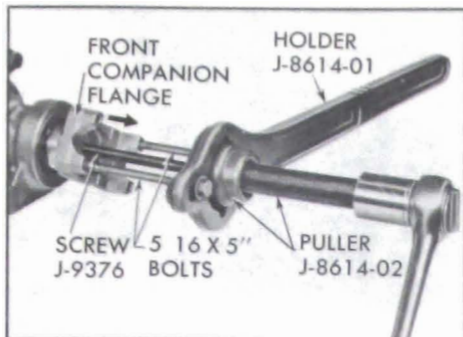

Figure 4-18—Removing Front Companion Flange
3. Remove retainer holding speedometer sleeve in rear bearing retainer. Remove driven gear and sleeve. O-ring seal can not be removed from driven gear sleeve. Assemble puller J-8614 as shown in Figure 4-18 and pull companion flange from main shaft.